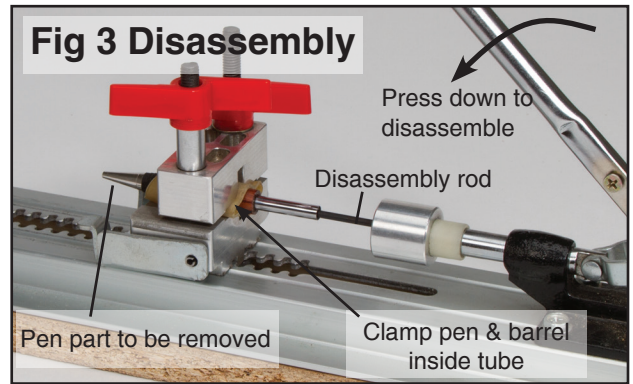

Fig 3 Disassembly
General Disassembly (Fig 3)
- To remove the tip, insert the 3mm rod through the mechanism and against the inside of the tip (see fig 3). Move sled into pressing position and apply pressure until tip comes out.